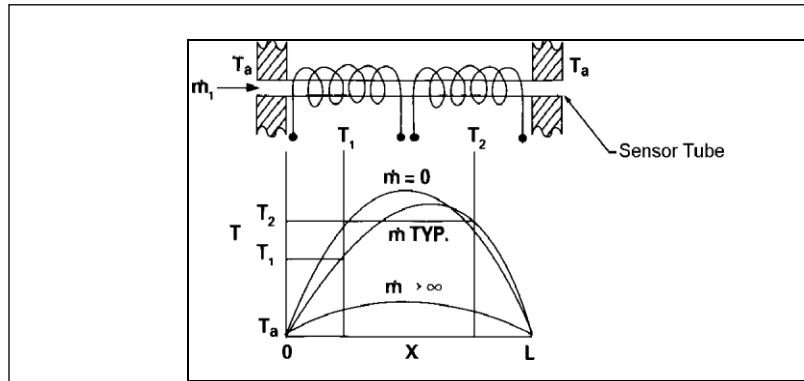
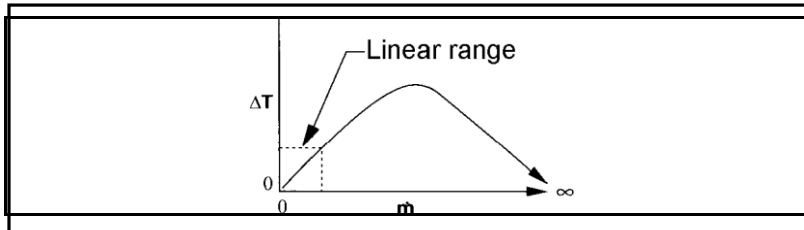

Figure 1-4. Sensor Temperature Distribution
Figure 1-5. Linear Range of the Transducer's Output Signal
The RTD coils are legs of a bridge circuit with an output voltage in direct proportion to the difference in the coils' resistance; the result is the temperature difference (OT), Figure 1-4. Two other parameters, heat input (H) and coefficient of specific heat (Cp) are both constant. The resulting output is nearly linear over the transducer's normal operating range (Figure 1-5).